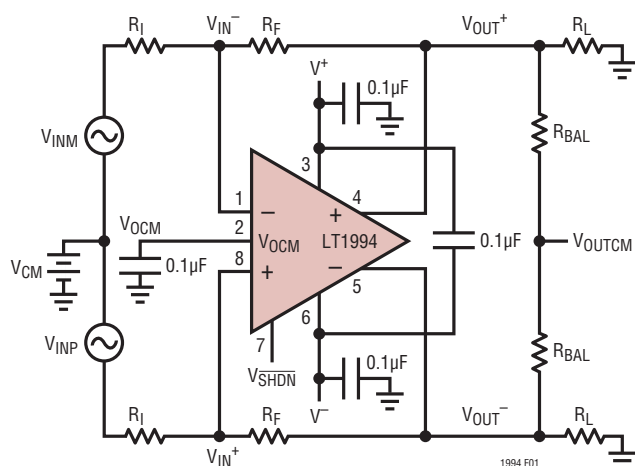

Figure 1. Test Circuit
**Note 7:** Input Common Mode Range is tested using the Test Circuit of Figure 1 ( $R_F = R_I$ ) by applying a single ended  $2V_{\text{P-P}}$  1kHz signal to  $V_{\text{INP}}$  ( $V_{\text{INM}} = 0$ ), and measuring the output distortion (THD) at the common mode Voltage Range limits listed in the Electrical Characteristics table, and confirming the output THD is better than  $-40\text{dB}$ . The voltage range for the output common mode range (Pin 2) is tested using the Test Circuit of Figure 1 ( $R_F = R_I$ ) by applying a 0.5V peak, 1kHz signal to the  $V_{\text{OCM}}$  Pin 2 (with  $V_{\text{INP}} = V_{\text{INM}} = 0$ ) and measuring the output distortion (THD) at  $V_{\text{OUTCM}}$  with  $V_{\text{OCM}}$  biased 0.5V from the  $V_{\text{OCM}}$  pin range limits listed in the Electrical Characteristics Table, and confirming the THD is better than  $-40\text{dB}$ .
As levels of integration have increased and, correspondingly, system supply voltages decreased, there has been a need for ADCs to process signals differentially in order to maintain good signal-to-noise ratios. These ADCs are typically supplied from a single-supply voltage that can be as low as 2.5V and will have an optimal common mode input range near mid-supply. The LT1994 makes interfacing to these ADCs trivial, by providing both single-ended to differential conversion as well as common mode level shifting. Figure 1 shows a general single-supply application with perfectly matched feedback networks from  $V_{OUT}^+$  and  $V_{OUT}^-$ . The gain to  $V_{OUTDIFF}$  from  $V_{INM}$  and  $V_{INP}$  is:
The input impedance looking into the  $V_{INP}$  or  $V_{INM}$  input of Figure 1 depends on whether or not the sources  $V_{INP}$  and  $V_{INM}$  are fully differential. For balanced input sources ( $V_{INP} = -V_{INM}$ ), the input impedance seen at either input is simply: